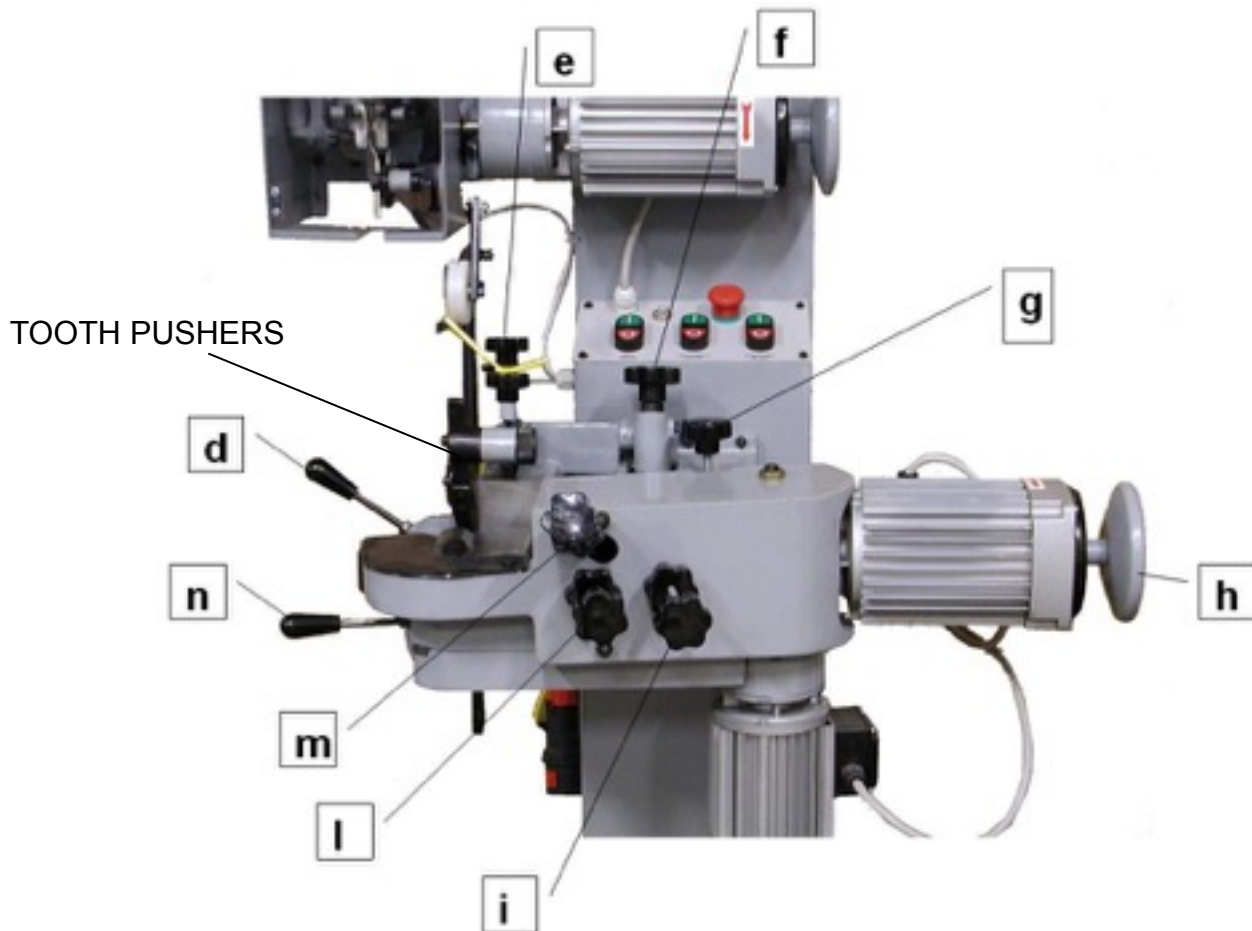
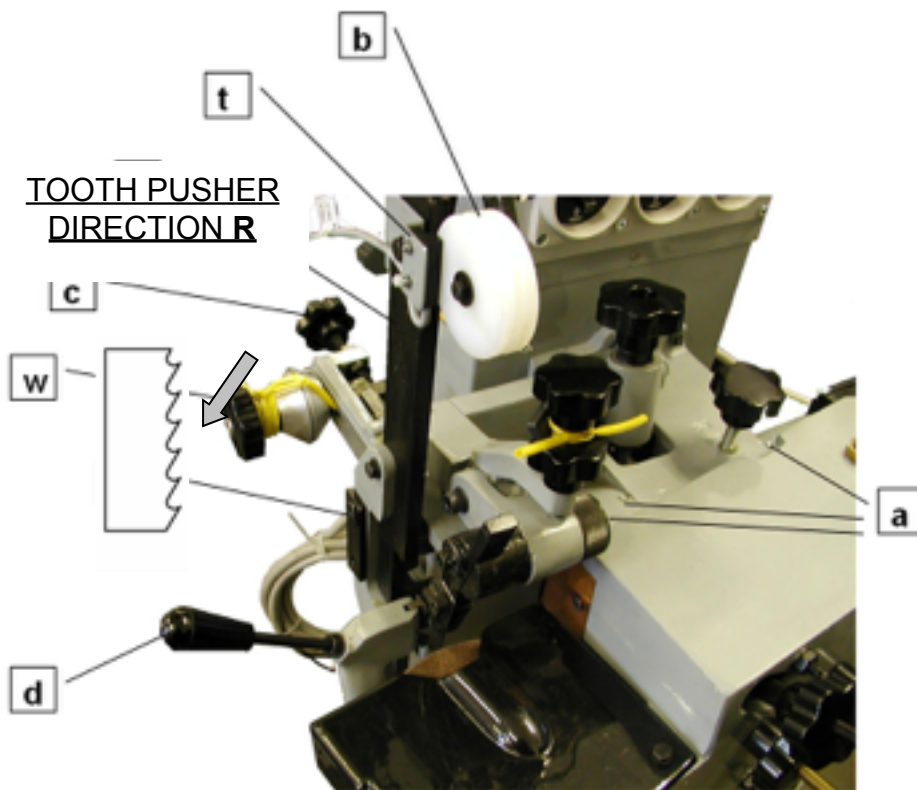

figure 22
figure 23
- Open the blade guide using knob **c** (fig. 23) and open the vice using lever **d** (fig. 23). Screw knob **I** (fig. 22, page 16) in order to remove the grinder unit from the bandsaw.
- Insert the bandsaw in the blade guide and close the vice using lever **d** (fig. 23). Rotate the knob **c** (fig. 23) in order to feed the bandsaw. The teeth gullet must protrude from the lateral fixed support of the vice (about 2 mm.).
- Using knob **g** (fig. 22, page 16) unblock the grinder unit (attention: support by hand the whole unit) and regulate the inclination according to the cutting angle of the bandsaw.
- Rotate the handwheel **h** (fig. 22, page 16): the tooth pusher causes the blade feed. Regulate it using the adjusting screw of the tooth pitch **f** (fig. 22, page 16).
- Loosen the knob **l** (fig. 22, page 16): the grinder unit advances towards the blade cutter. check that the grinder does not strike the tooth. If the grinder strikes the tooth, go back to the previous point and regulate again the feed pitch, increasing it.
- Regulate the grinder in/out run using knob **l** (fig. 22, page 16) in order to sharpen the whole cutter until the bottom of the tooth gullet. Using the pitch adjusting screw **e** (fig. 22, page 16) put the grinder in contact with the cutter (avoid an exaggerated removal).
- Regulate the grinder exit using knob **m** (fig. 22, page 16). This operation regulates also the tooth back sharpening. Delaying the grinder exit, the grinder grinds the cutter back while the tooth pusher feeds it downwards.
- Knob **i** (fig. 22, page 16) must usually keep completely loosened. If you are using a blade with spaced teeth, use this knob for increasing the grinder stay time inside the gullet in order to grind also the straight portion of the gullet.
For stopping the machine automatically after a full turn, place a small magnet (supplied with each machine) on the edge of the band already set. The magnet will cause the shutdown near the sensor **t** (fig. 23, page 17).
In case of blades having diameter <150 mm. , use spacer **z** (fig. 23, page 17).
- Attach the saw blade on the appropriate **w** support. To continue sharpening the blade on the appropriate place **w** support group (Figures 23 , p . 17) . To do so, unscrew the knob of said support and insert the blade between the two conical pressure. The group support **w** circular blade can slide along a guide to enable you to sharpen blades with different diameters . Once correctly positioned the blade close the **w** group knob.
- Using knob **g** (fig. 22, page 16) unblock the grinder unit (ATTENTION: support by hand the whole unit) and regulate the inclination according to the cutting angle of the bandsaw.
- Regulate the grinder run using knob **l** (fig. 22, page 16) in order to sharpen the whole cutter until the bottom of the tooth gullet. Using the pitch adjusting screw **e** (fig. 22, page 16) put the grinder in contact with the cutter (avoid an exaggerated removal).